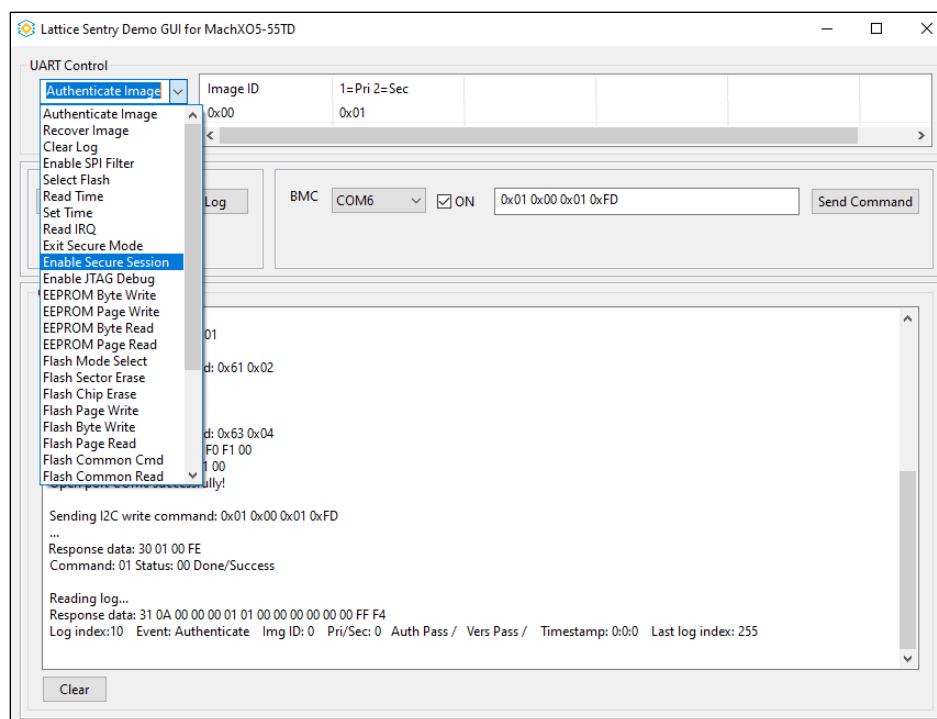

Figure 9.10. Lattice Sentry Demo GUI Enable Secure Session
13. Some Demo GUI commands require Secure OOB mode. To enter Secure OOB mode, select **Enable Secure Session** from the UART Control drop-down menu (Figure 9.10).